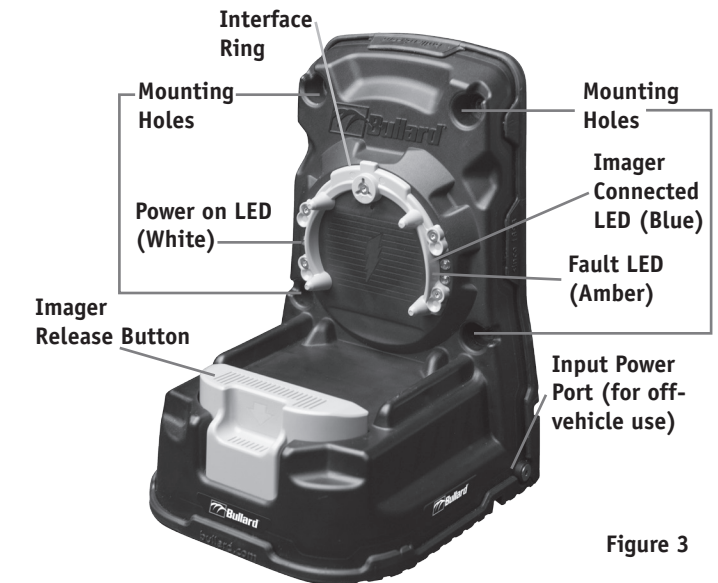

Figure 3
To install the Truck Mount Charger in a vehicle, select a convenient location in either a vertical or horizontal orientation. Leave sufficient clearance above the Charger for installation of the imager, below the Charger (if additional accessories will be stored on the Charger), and in front of the Charger for removal and reinstallation of the imager (Figure 3). A mounting template is included with the Charger as a reference for clearance requirements and mounting hole spacing. Mount the Charger using the included (4) 5/16" self-tapping hex screws. No drill holes are required because of this type of screw.
When power is first applied to the charger, (via either hardwired to a vehicle or the optional AC power adapter) all three LEDs will briefly illuminate as a bulb check cycle, after which the WHITE LED will remain illuminated. This indicates the Charger unit is powered on and ready for use (Figure 3).